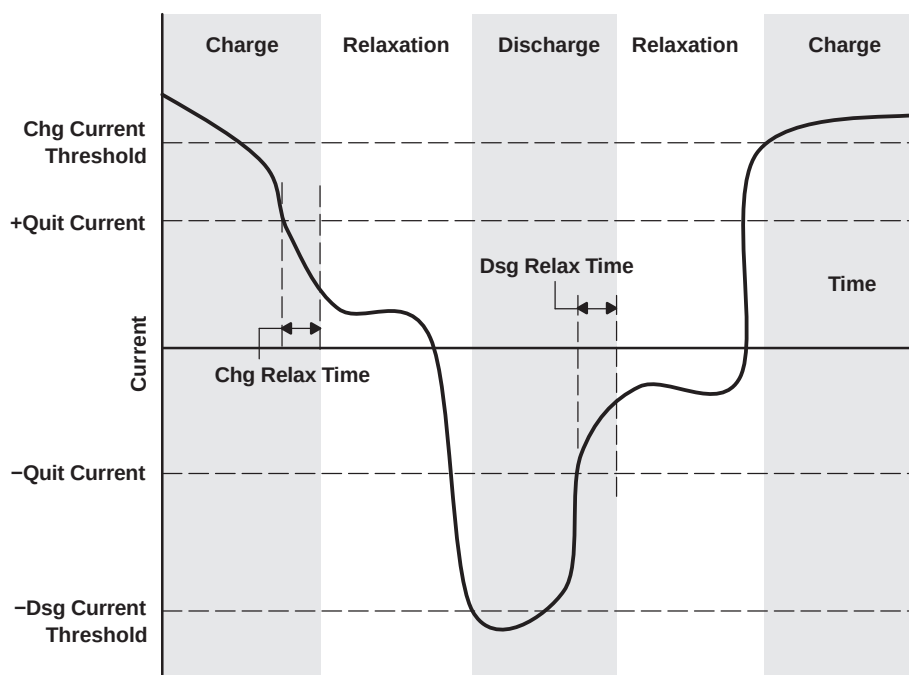

Figure 12. Example of the Algorithm Operation Mode Changes With Varying `SBS.Current()`
The algorithm differentiates between *charge*, *discharge*, and *relaxation* modes of operation. During *charge* mode, the `SBS.OperationStatus()` [DSG] bit is cleared, and during *discharge* and *relaxation* mode, it is set. Entry and exit of each mode is controlled by Data Flash (DF) parameters in the subclass Gas Gauging: Current Thresholds section as illustrated in Figure 12. Charge mode is exited, relaxation mode is entered when `SBS.Current()` goes below `DF:Quit Current` and after a `DF:Chg Relax Time` period. Discharge mode is entered when `SBS.Current()` goes below `DF:Dsg Current Threshold`. Discharge mode is exited, relaxation mode is entered when `SBS.Current()` goes above `—DF:Quit Current` threshold and after a `DF:Dsg Relax Time` period. Charge mode is entered when `SBS.Current()` goes above `DF:Chg Current Threshold`.